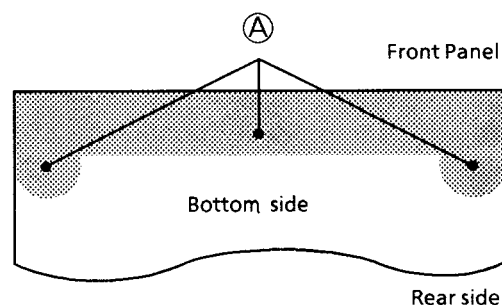
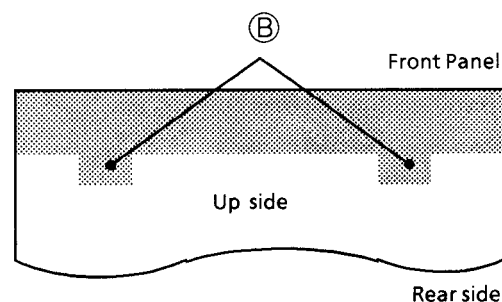

Fig 1. Bottom View
Fig 2. Top View
(2) Removing the Front panel Ass'y(Fig.1, Fig.2)